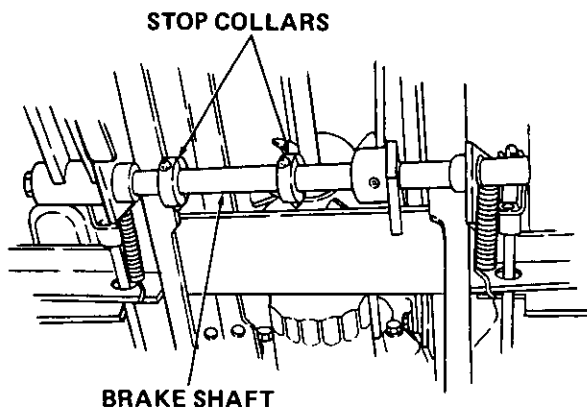

Figure 7
1. For **Super Garden Tractors only** loosely attach stop collars from Kit 322 onto brake shaft as shown in Figure 7.